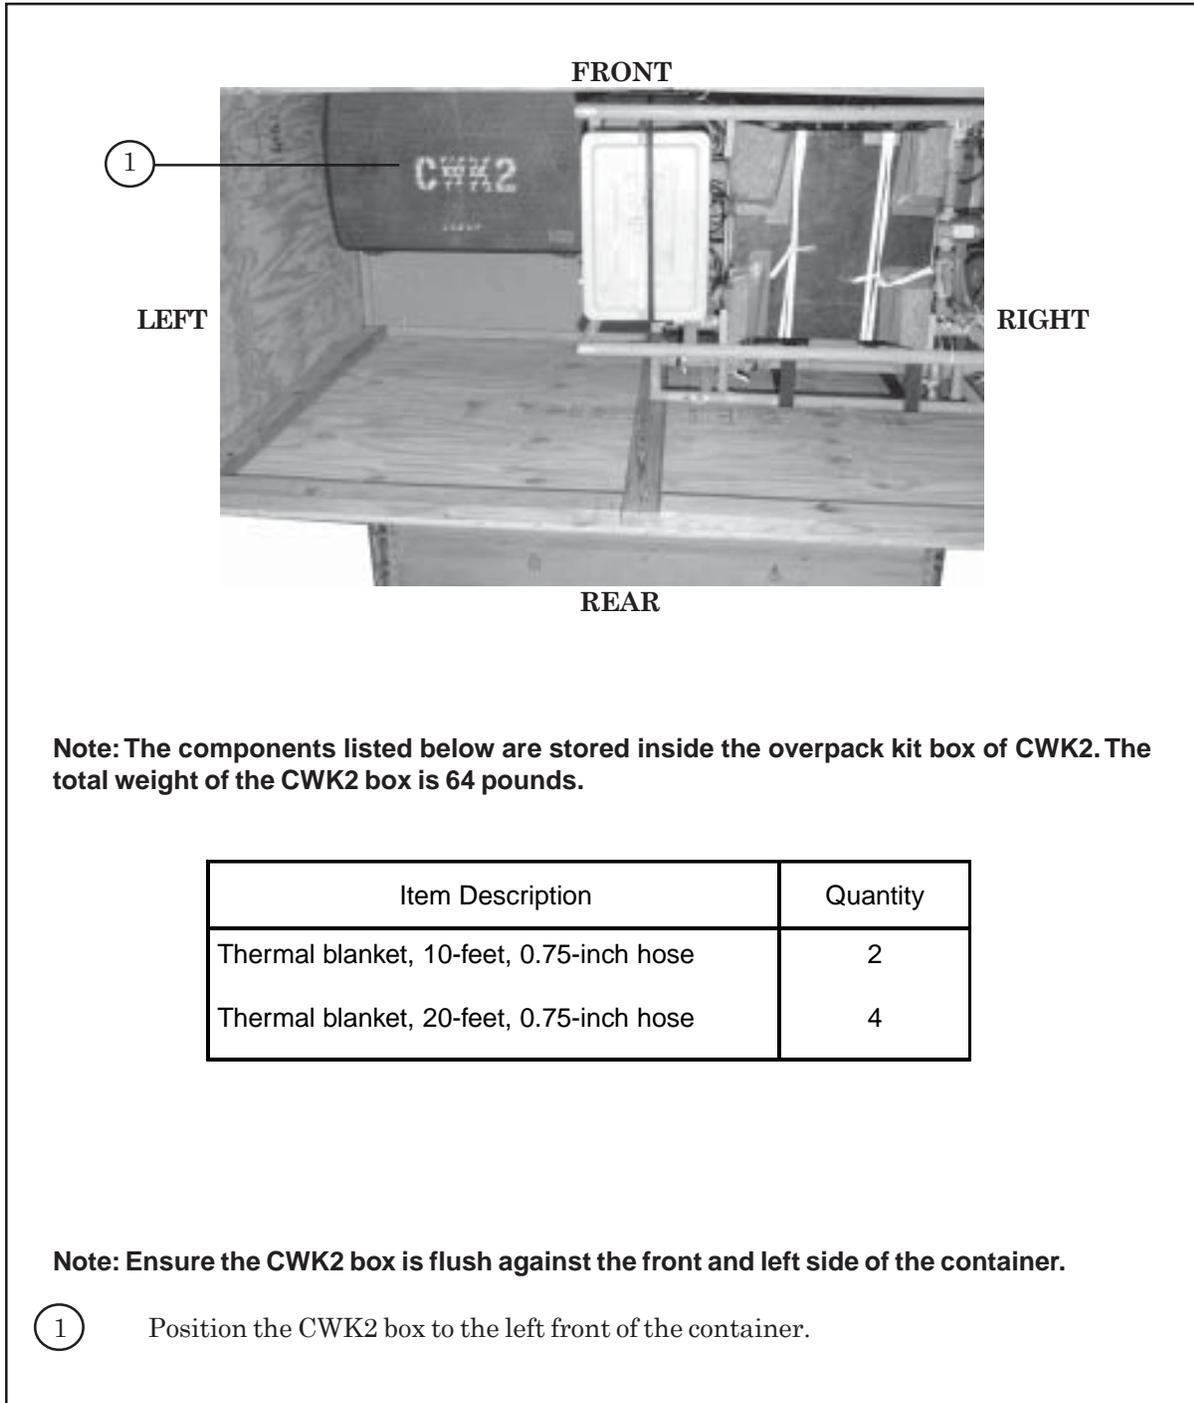

Figure 2-11. CWK2 Box and CWK3 Box Stowed
- d. **STOWING COLD WEATHER KIT 2 (CWK2) BOX AND COLD WEATHER KIT 3 (CWK3) BOX.** Stow the CWK2 box and the CWK3 box in the container as shown in Figure 2-11.